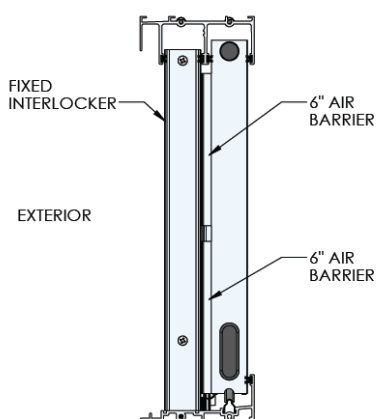

Figure 27:
1. Slide the air barriers in all fixed interlocks into position. At the head slide the air barrier up until it butts with the center mohair pocket (Figure 27). At the sill slide the air barrier down until it sits on the sill as shown.